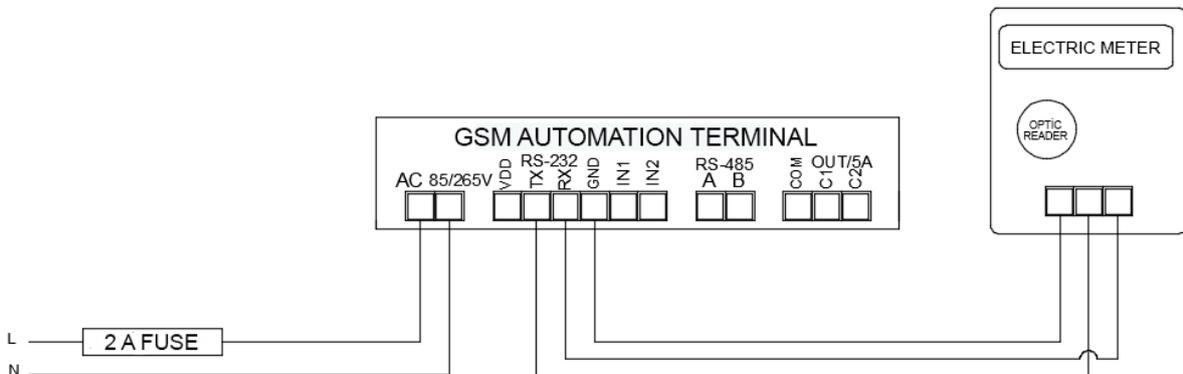

Figure 3.3
- b. Electric Meter / RS-232: See. Figure 3.3